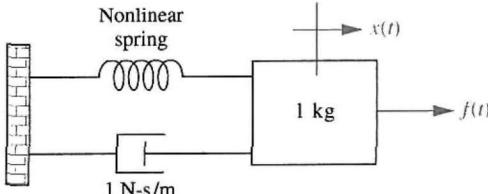

FIGURE P2.33
53. For the translational mechanical system with a nonlinear spring shown in Figure P2.33, find the transfer function, $G(s) = X(s)/F(s)$, for small excursions around $f(t) = 1$. The spring is defined by $x_s(t) = 1 - e^{-f_s(t)}$, where $x_s(t)$ is the spring displacement and $f_s(t)$ is the spring force. [Section: 2.10]